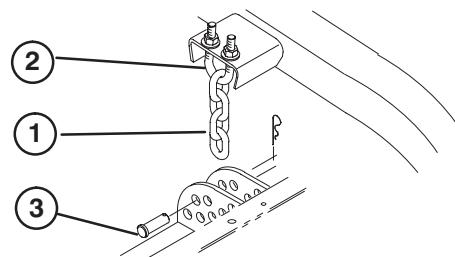

Figure 15
3. Rotate (1) blade so it points straight forward.
7. Loosen jam nuts on top or bottom of height-of-cut chain U-bolt (Fig. 15).
Note: If desired deck pitch cannot be attained, relocate rear height of cut pins (Fig. 15) to a lower or higher setting.